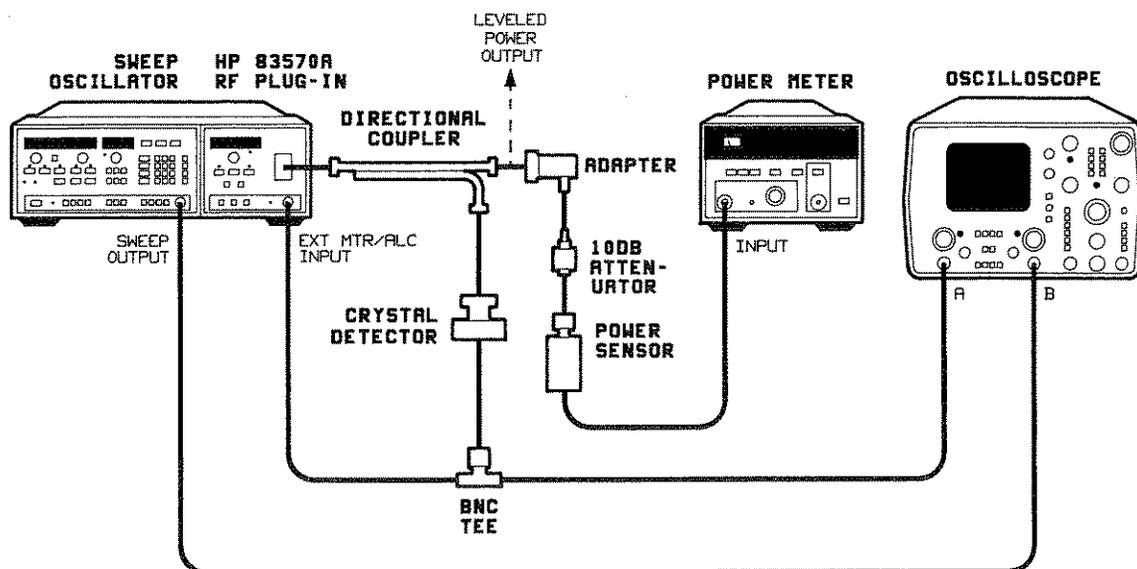

Figure 3-5. External Crystal Detector Leveling Set Up
1. Connect the equipment as shown in Figure 3-5. Turn the instruments on and allow them to warm up for at least 30 minutes.
4. To use leveled RF power output to test external equipment, make the connection at the point marked Leveled Power Output in Figure 3-5.